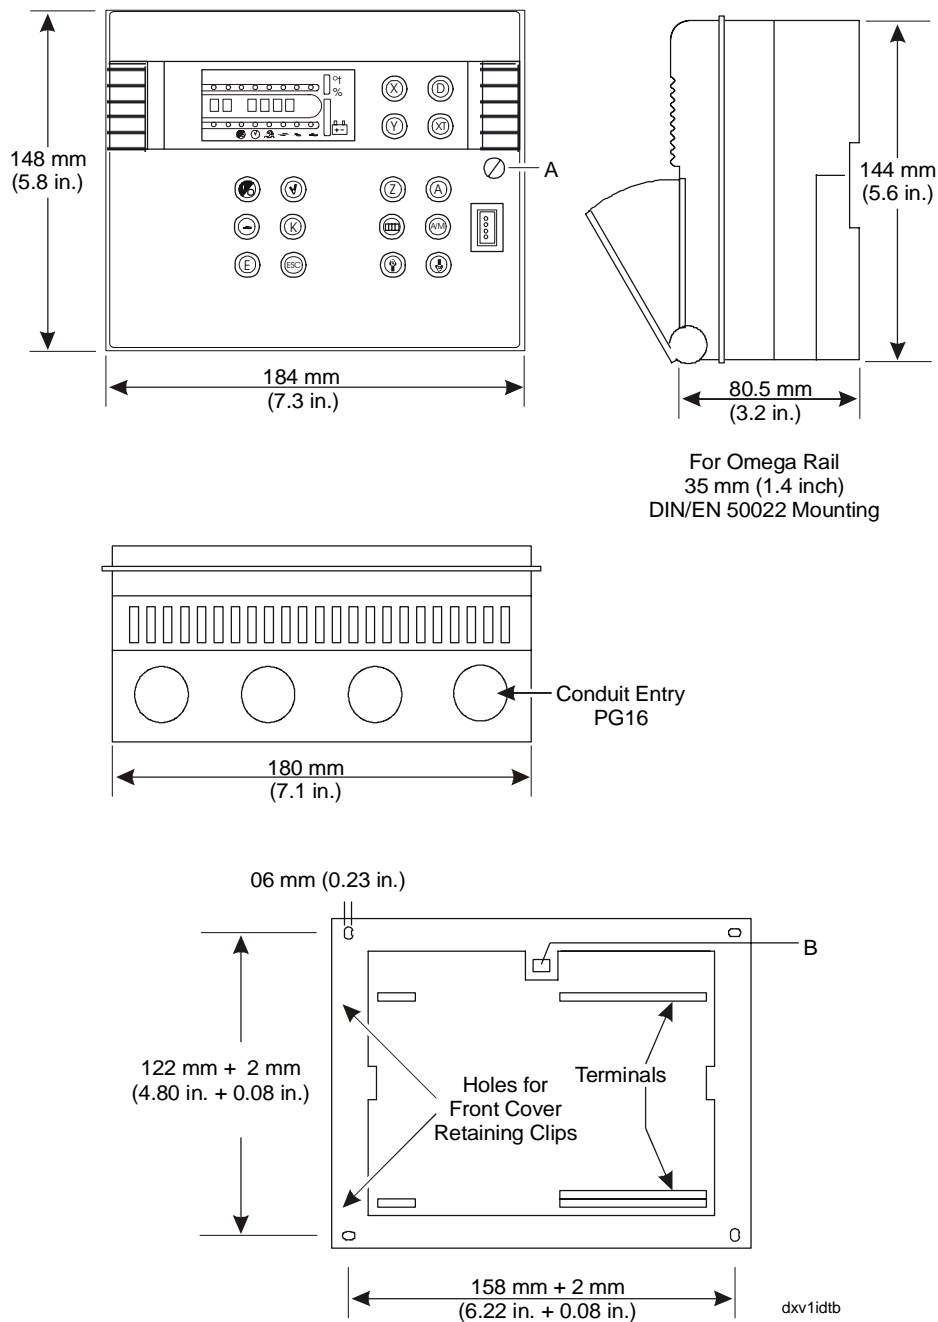

Figure 4: Installation Details of Version 1
1. Remove front cover by releasing Screw A (Figure 4), lifting the cover, and detaching it from the base. The cover may be hooked onto the base in the open position by engaging the two lugs on the left of the controller cover into the corresponding holes in the base. Alternatively, it may be completely removed by detaching the ribbon cable from the PC board in the cover.
3. For DIN rail mounting, snap the controller onto the 35 mm (1 3/8 inch) rail. To release the controller, insert a screwdriver in Slot B (Figure 4) and lift the retaining clip.